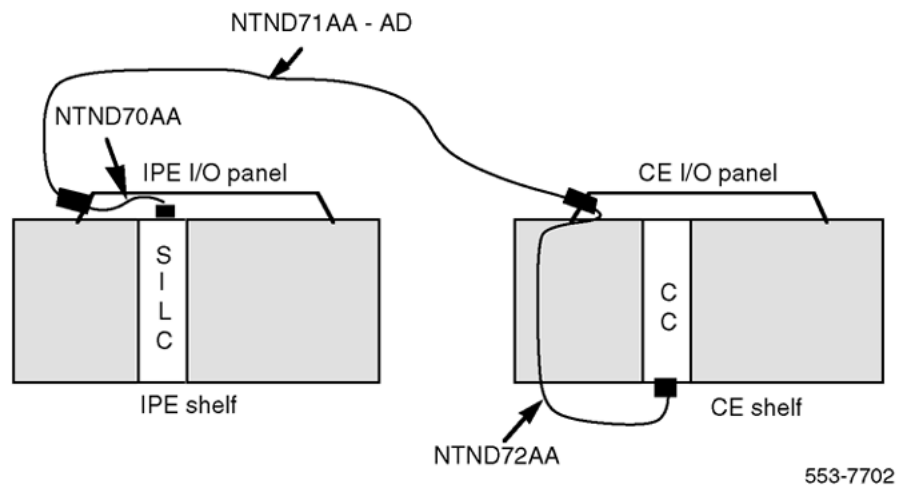

Figure 11: Clock reference cable connection
Complete this procedure to connect the ISDN BRI clock reference cables to the Clock Controller. There are three different cables that route clock signals from the IPE back plane to the Clock Controller face plate (as shown in Figure 11: Clock reference cable connection on page 42). Refer to Table 7: ISDN BRI clock reference tables on page 41.
2. Connect the cables as shown in Figure 11: Clock reference cable connection on page 42; if choosing IPE slots 0, 4, 8, or 12, remove the transmit and receive cable installed on pins 72 - 79 and secure them to a proper place.